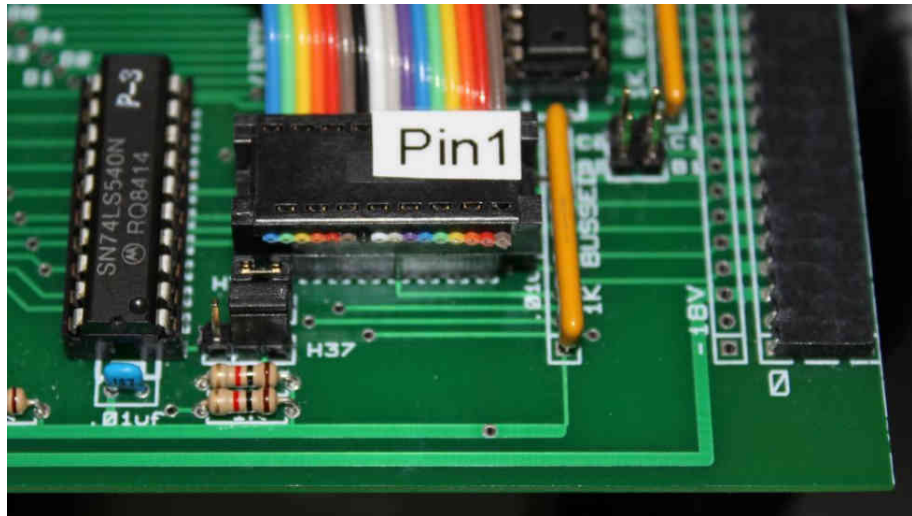

Figure 9.1: H37 Interrupt Ribbon Cable
- On the existing CPU board, unplug the cable at P201. If you are using an H37, also remove the interrupt ribbon cable (see Figure 9.1 on page 30). Remove the old CPU board.
- If you are using an H37 card, plug the interrupt ribbon cable into U16. (Ensure pin 1 of the cable is correctly aligned, see Figure 9.1 on page 30.)